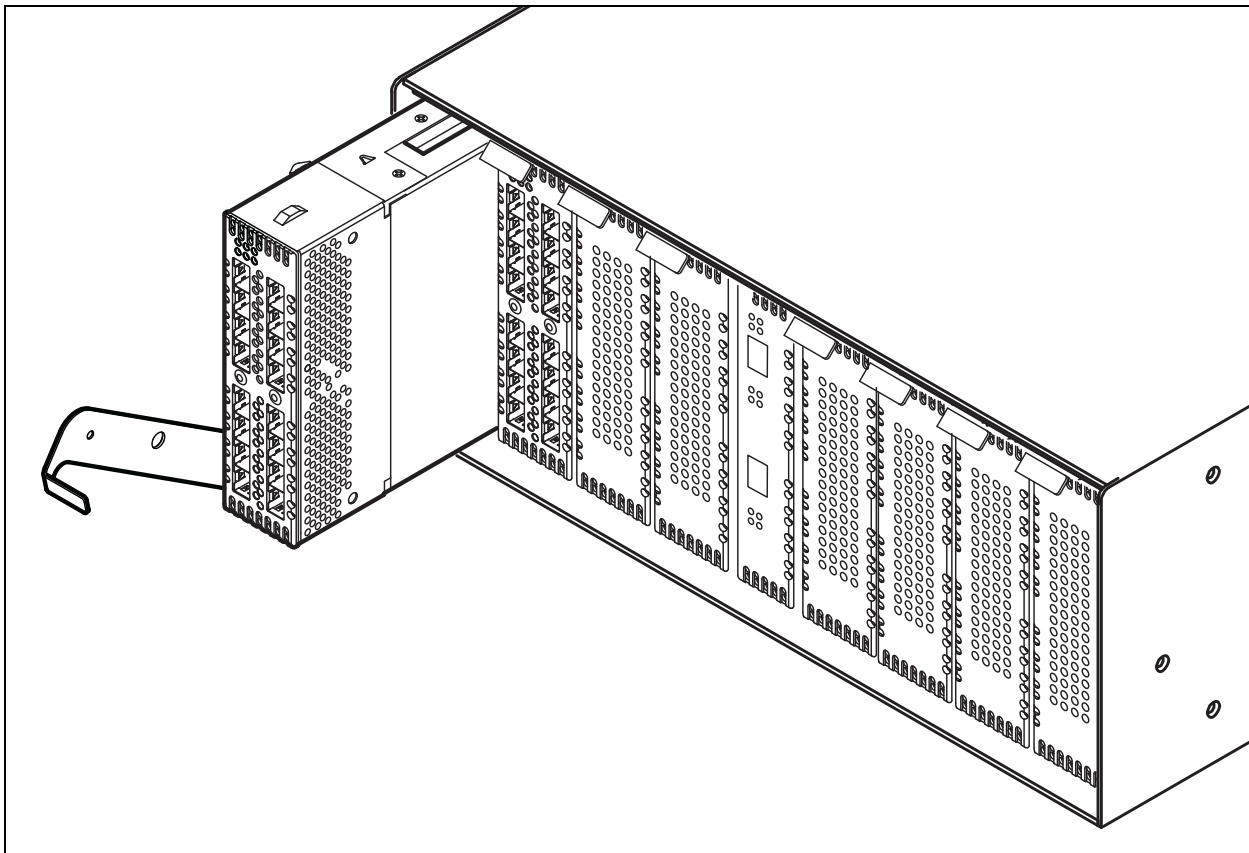

Figure 5-3 Removing an I/O Blade
3. Pull the I/O blade by the latch to disengage the I/O blade from the midplane as shown in Figure 5-3. Carefully slide the I/O blade out of the chassis.